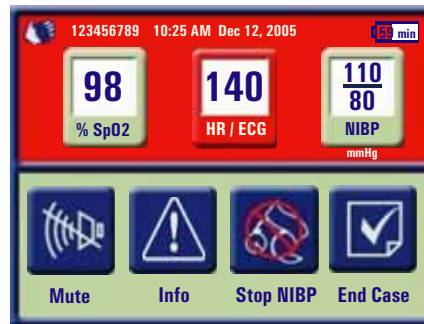

Figure 7-1 BMU Monitoring Screen During Red Alarm
- The general background field and the shortcut button for the patient physiological parameter that is causing the alarm change to red. In Figure 7-1 on page 7-2, the example shows the changes for a heart rate alarm.